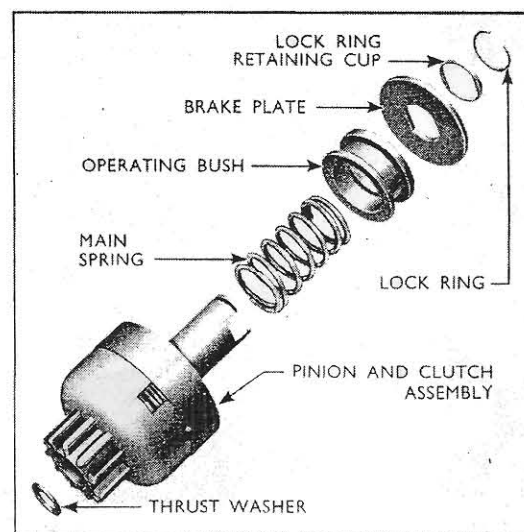

Fig. 2. Starter Motor Drive
11. Open the retaining cup securing the lock ring on the pinion and clutch assembly. (See Fig. 2.)